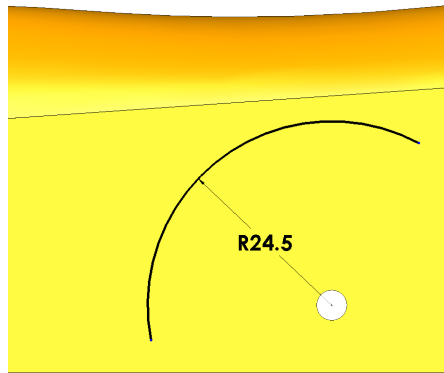

Fig. 91
Step 7. Dimensions the radius **24.5** as shown in **Fig. 91**.